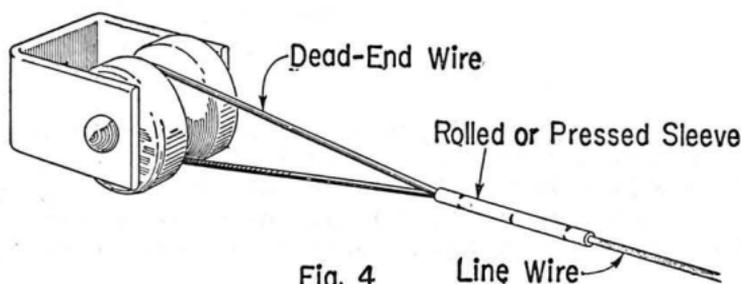

Fig. 4
- (5) Make an indentation about 1/4 inch from the end of the sleeve with the cutting edge of the side cutting pliers to hold the dead-end wire in the sleeve.
- (6) With the line wire pulled to the desired sag, cut it about 1/4 inch short of the mid-point of the S Sleeve so that the proper sag will be maintained after the sleeve is rolled or pressed. Clean the end of the line wire with abrasive cloth.
- (7) Pull the line wire up so that the end of the line wire will easily reach the mid-point of the sleeve, insert the line wire in the sleeve, and indent the sleeve in the usual manner.
- (8) Place the sleeve in the proper groove of the sleeve roller and roll the sleeve (see Fig. 4) or press with a Nicopress Tool. See Section on Open Wire, Sleeves for Joining Line Wire, for groove sizes in sleeve roller or for correct pressing tool, groove sizes, and number of presses for pressing S Sleeves.